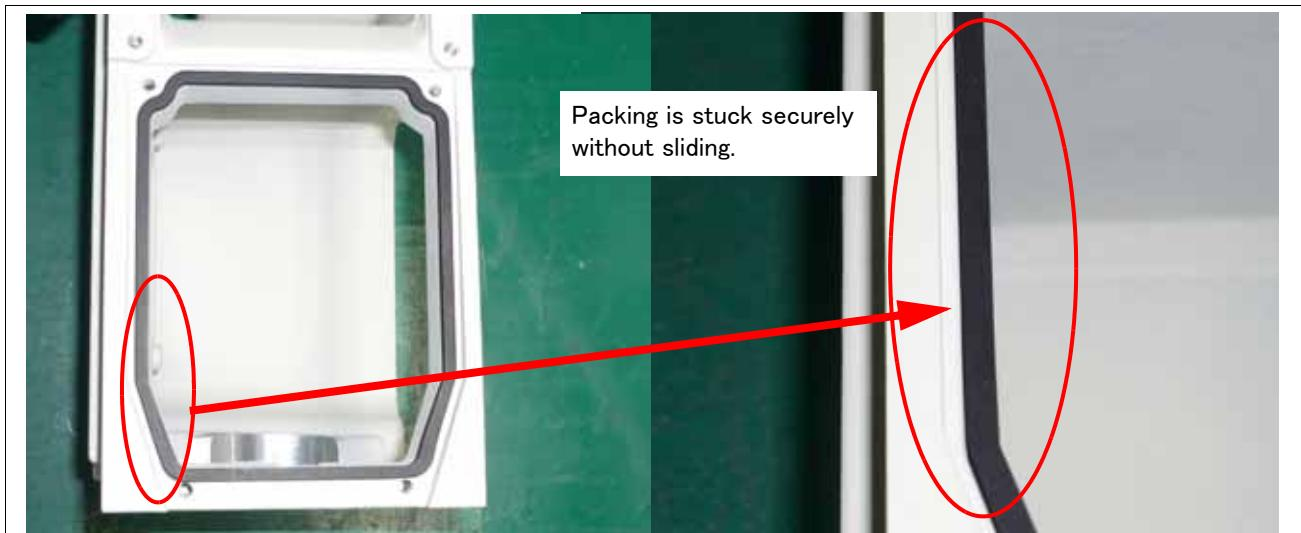
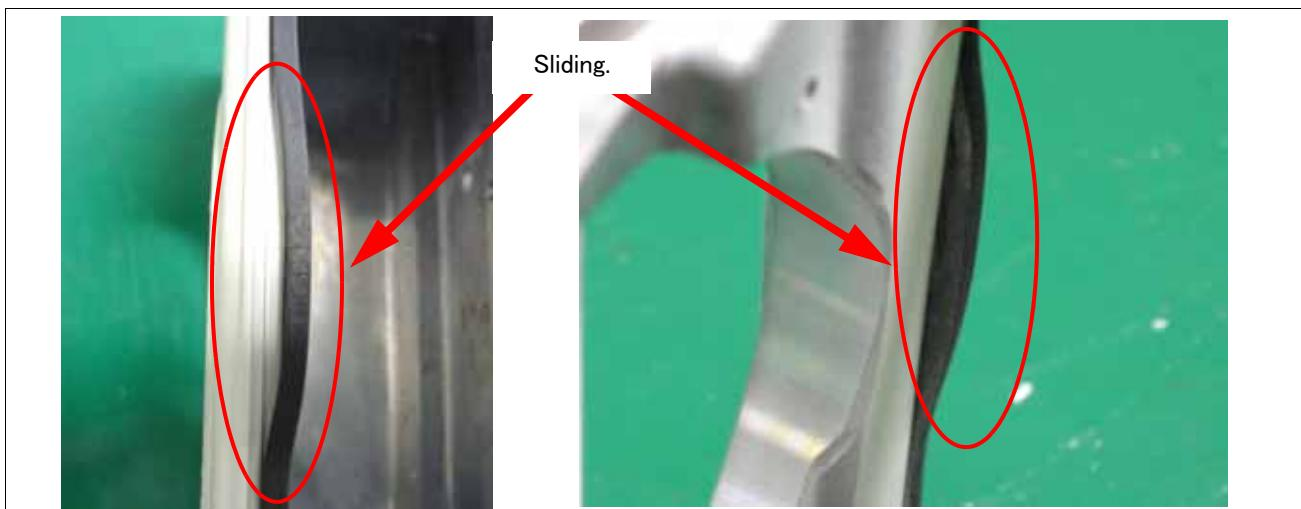
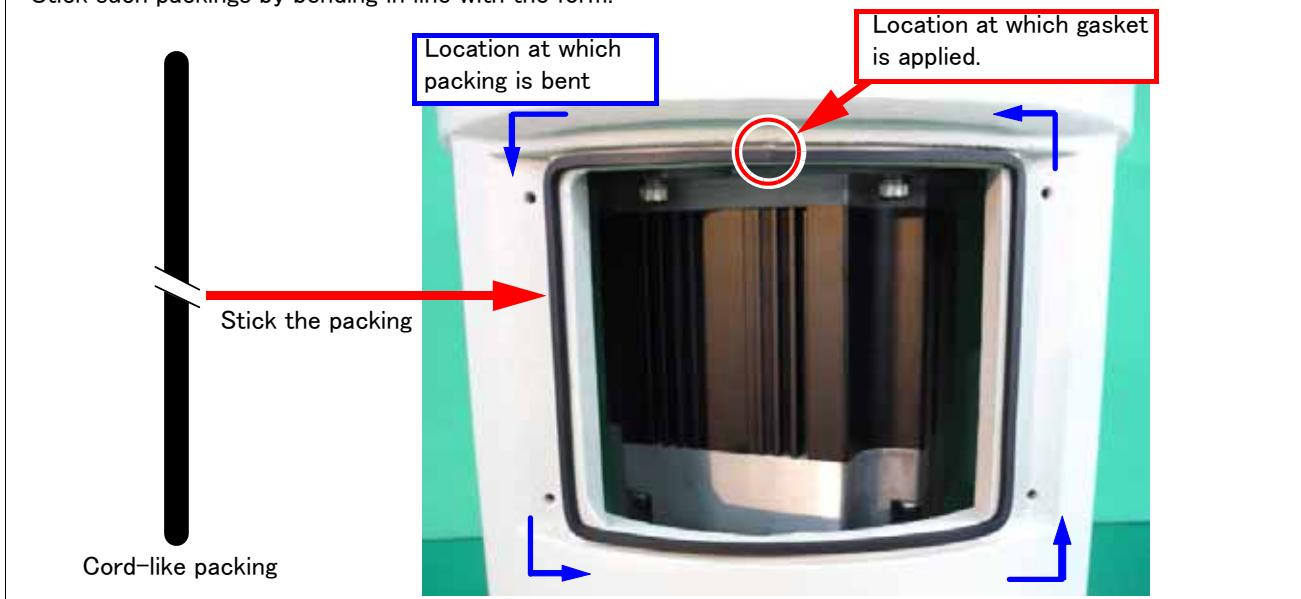

Fig.5-6 : Example of sticking packing (good example)
Fig.5-7 : Example of sticking packing (bad example)
Fig.5-8 : Sticking the cord-like packing
- 2) The sticking surface of packing is double-coated adhesive tape. Referring to "Fig.5-6 : Example of sticking packing \(good example\)" and "Fig.5-8 : Sticking the cord-like packing", and stick the packing in line with form. Be careful for the packing not to slide. The example of unsuitable packing slid is shown in "Fig.5-7 : Example of sticking packing \(bad example\)".
The lubrication specifications for each place are shown in Fig. 5-6.